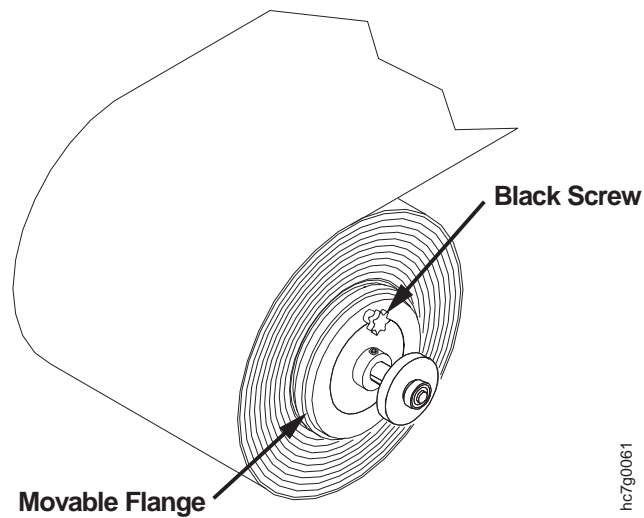

Figure 240. Black Screw on Movable Flange
5. Tighten the black screw to secure the movable plastic flange, as shown in Figure 240.